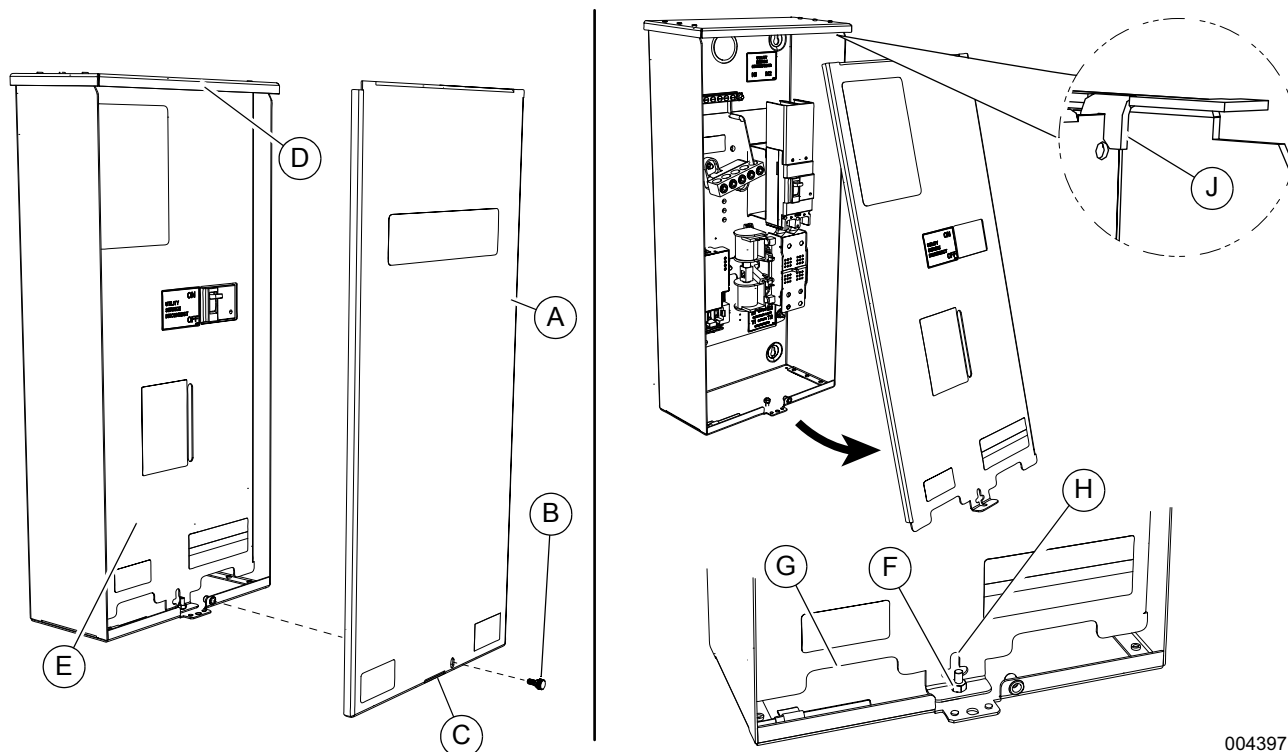

Figure 3-1. Open Enclosure
See Figure 3-1. First, remove outer cover (A):
1. Remove thumb screw (B).
2. Slide slot (C) over retention tab.
3. Lower cover until clear of top flange (D), and pull away from enclosure.